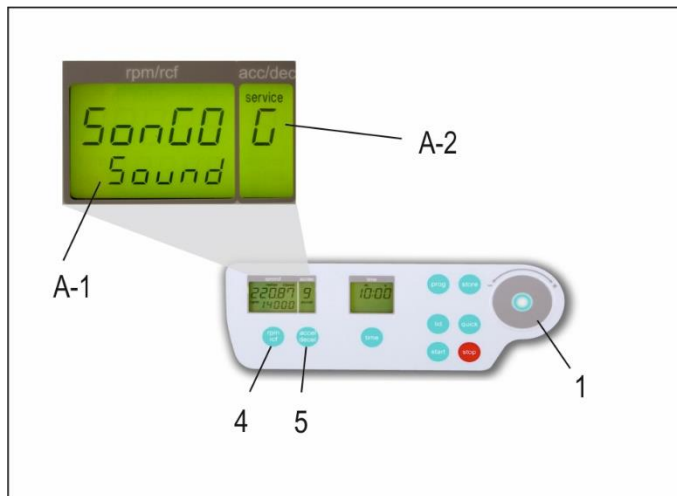

Figure 9
Proceed as illustrated, under point 1.8.1, to enter this program mode, press the key, "accel/decel" (5). In the display, "accel/decel" (A-2) flashes the word, "service". Select the letter, "G" with the control field (1). As a result, appearing in the display, "rpm/rcf" (A-1), the word "SonGo/Sound". After pressing the key „rpm/rcf" (4), select a song with the control field (1), (see Figure 9).